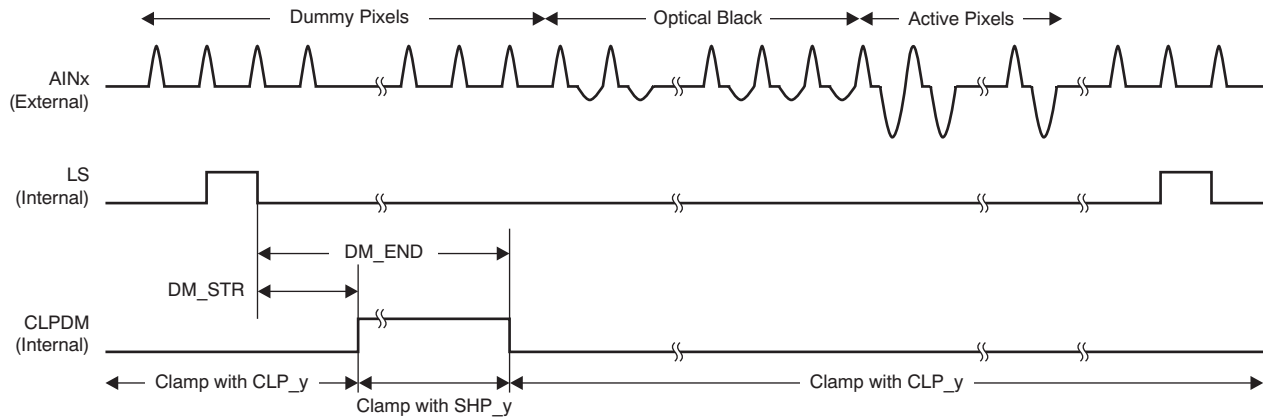

Figure 8. Line Clamp Period Setting
If line clamp mode is used, the CLPDM period should be configured by the internal registers. The CLPDM period is determined with reference to the line cycle signal for the sensor (LS). Thus, the start and end of CLPDM are each defined as the number of pixels from the LS falling edge. Because CLPDM is used as the clamp period, it should be assigned for the interval of any dummy or optical black pixels. Figure 8 shows the relationship between LS and CLPDM.